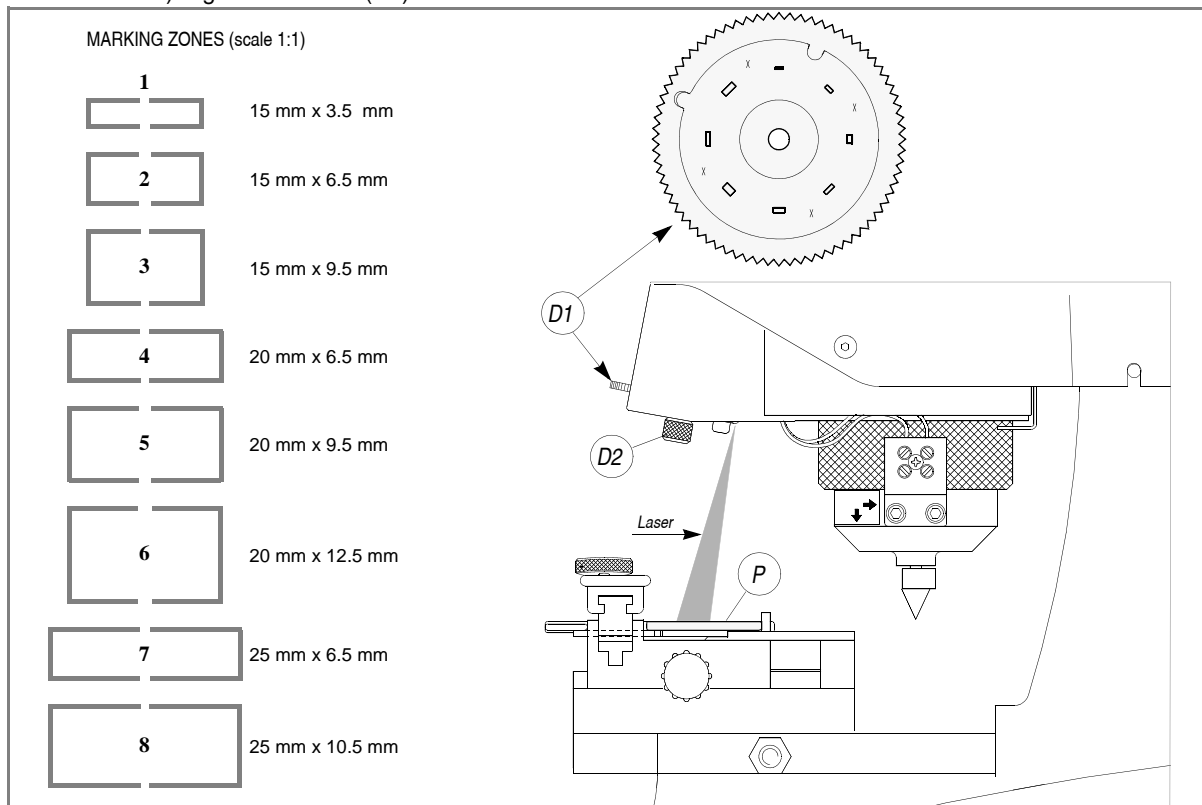

Fig. 17
The tracking disk (D1) includes eight marking zones of different sizes and shapes (fig. 17). Other versions are available on request.
- 1) loosen the knob (D2) (fig. 17).